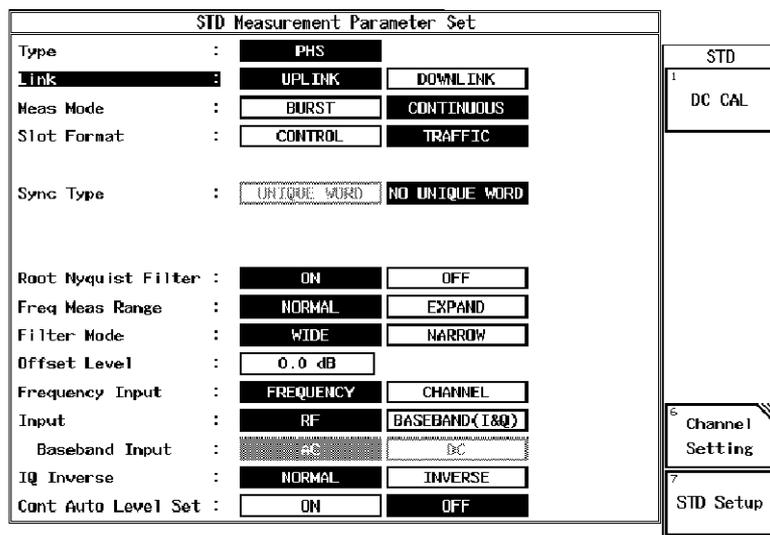

Figure 6-3 Setup of Measurement Parameter for Modulation Accuracy (PHS)
3. On the R3267 Series, set the measurement parameter as shown in Figure 6-3.